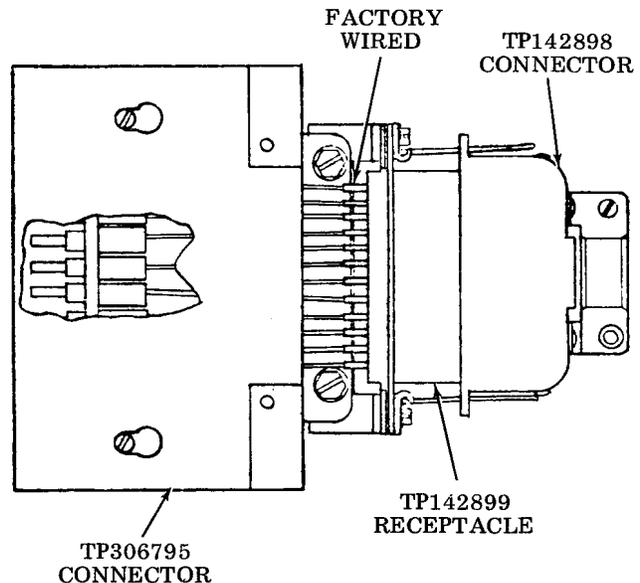

Figure 9 - TP335600 Connector Assembly
Note: When a module is ordered with a CDT or 2541 Buffer Interface Set, the TP335600 connector assembly is also furnished for connecting Telco cabling to the module. If the module is ordered separately, the connectors are not furnished (Figure 9).
5.18 The receiving module connecting to JB403 (Figure 9) remote output should have appropriate circuitry to interface parallel terminal signals. When the CDT receiving logic circuitry has an MC969 interface terminator, it should be programmed for option A (reference 5.05).
5.42 The PTI buffer set or CRT display set that interfaces to the JB303 (Figure 9) module connector should have an MC969 (Figure